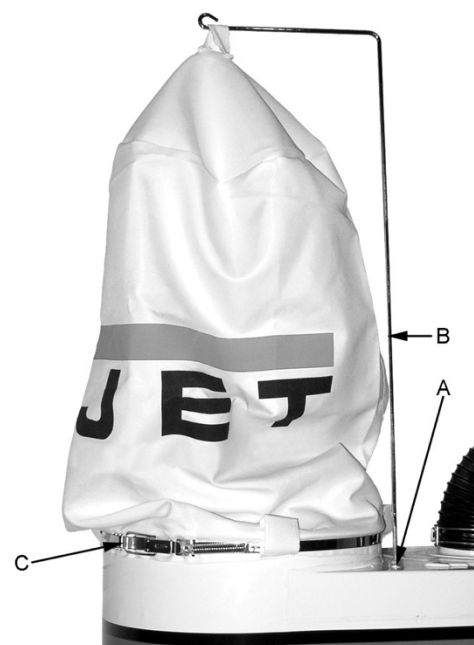

Figure 5
Referring to Figure 5:
1. Insert the *snap ring* of collector bag into the bottom of housing at an angle (Figure 5).